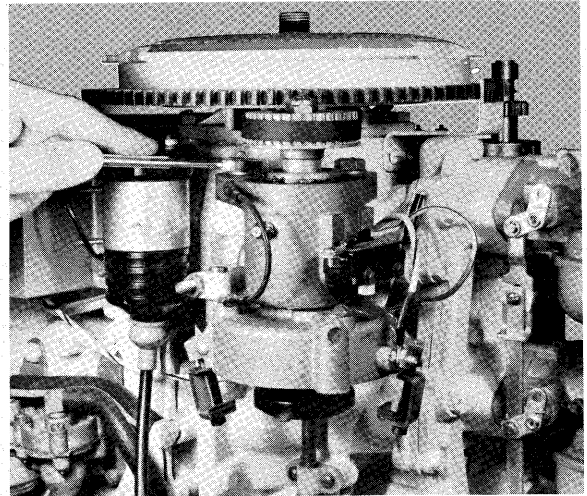

Figure 3—Removing Distributor
- C. Remove two (2) screws securing distributor to powerhead as shown in figure 3.
- H. Install distributor housing on powerhead as shown in figure 3. Do not tighten screws at this time.
When the match mark on the distributor pulley is aligned with the outside diameter of flywheel, install distributor belt over pulley and adjust distributor to obtain a slight deflection (1/4 inch with one (1) pound force exerted). Tighten two (2) screws securing distributor bracket to powerhead as shown in figure 3.